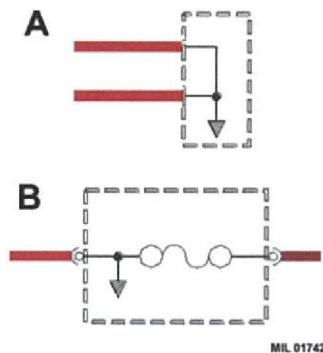

Fig 7 Line types II
19 The "cup and ball" symbol indicates the male and female halves of the connector (refer to Fig 7).
- 19.1 Plug on lead, fly lead (Fig 7 (A)), wired directly to the component.
- 19.2 Connector plugs directly into circuit (Fig 7 (B)).